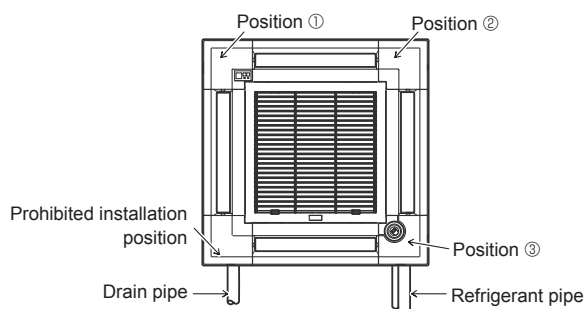

Fig. 7-11
The signal receiver corner panel can not be installed on the drain pipe side for the main unit. (Refer to Fig. 7-11)
- The i-see Sensor corner panel should be fixed onto the grille (1) with screw (3).
- * If the position of the i-see Sensor was changed from default position (position (3)) to the other position, change the function settings. (Fig. 7-11)
- The i-see Sensor corner panel can not be installed on the drain pipe side for the main unit. (Refer to Fig. 7-11)